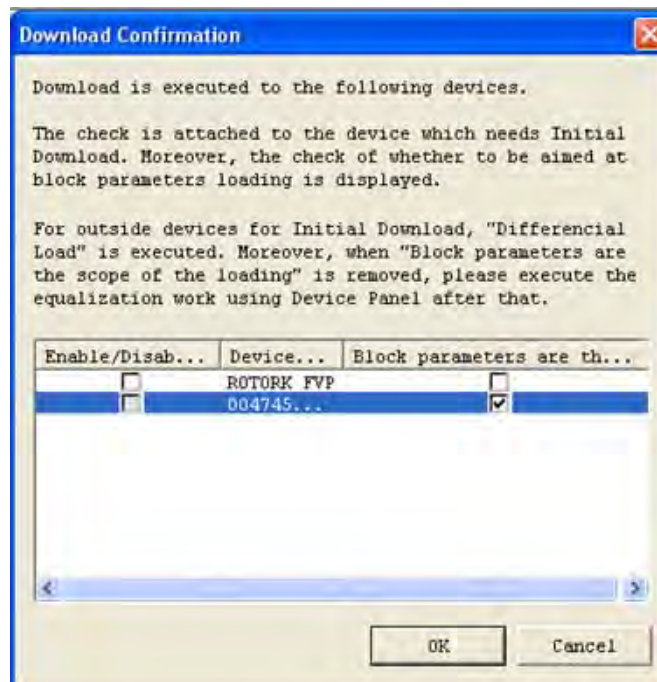

Figure 82 Device Download Confirmation
2. Select the SVI FF device in the download confirmation window for the download to proceed (Figure 82).